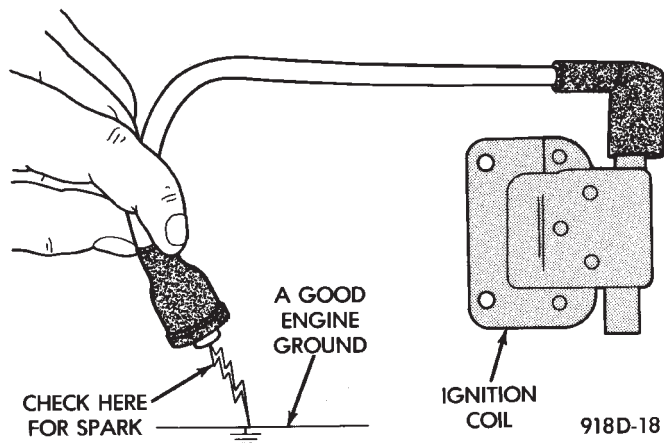

Fig. 13 Checking for Spark—Typical
(1) Disconnect the ignition coil secondary cable from center tower of the distributor cap. Hold the cable terminal approximately 12 mm (1/2 in.) from a good engine ground (Fig. 13).